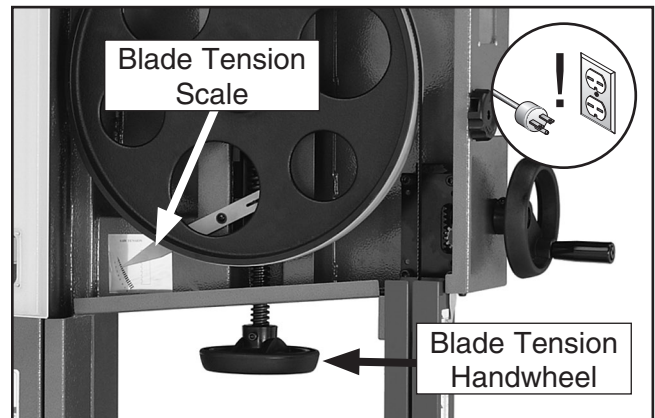

Figure 18. Blade tensioning controls.
3. Engage the quick tension lever and turn the blade tension handwheel until the tension scale (**Figure 18**) reads between 4 and 6.